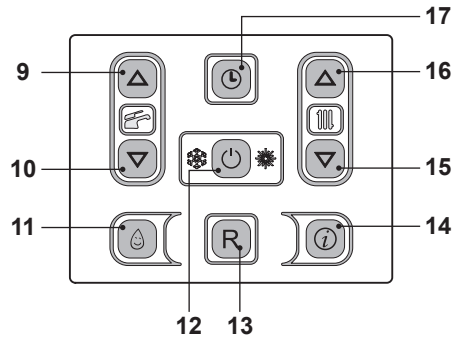

Fig. 2.7
Enter "programming mode" by holding down key 17 for 5 seconds (Fig. 2.7) until the display indicates the (L) symbol. Use keys 15 (decrease) and 16 (increase) Fig. 2.7 to set the time, day and date values, using keys 9 and 10 to move from one parameter to the next. Press key 17 briefly to save the values en-
- Press the key 12 for 2 seconds until both  symbol appear on the display Fig. 2.7.
The output temperature of c.h. water can be adjusted by acting on keys 15 (reduce) and 16 (increase) (Fig. 2.7) from a minimum of about 25°C to a maximum of about 85°C. Press one of the two keys once to display the "set" value. Press again to access the modification.
However, if the ambient temperature is not comfortable, the flow temperature of the heating plant can be increased or reduced by  $\pm 15^{\circ}\text{C}$  by acting on keys 15 (reduce) and 16 (increase) (Fig. 2.7).
The heating temperature of the zone valve controlled by a thermostat is configured on the boiler control panel using keys 15 and 16 Fig. 2.7.